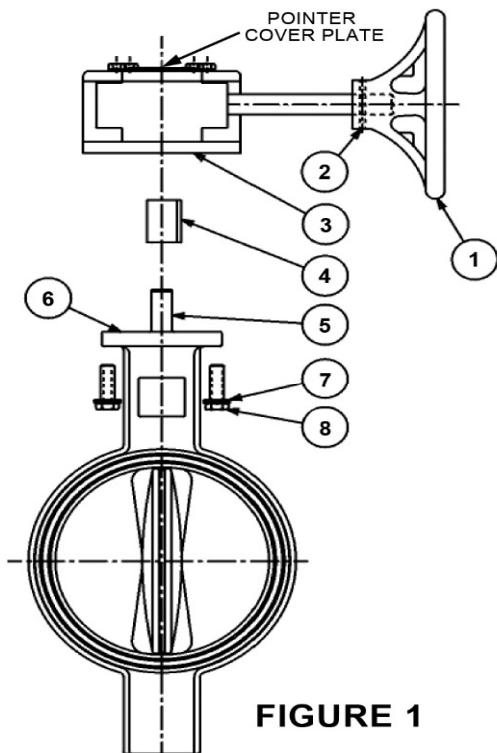
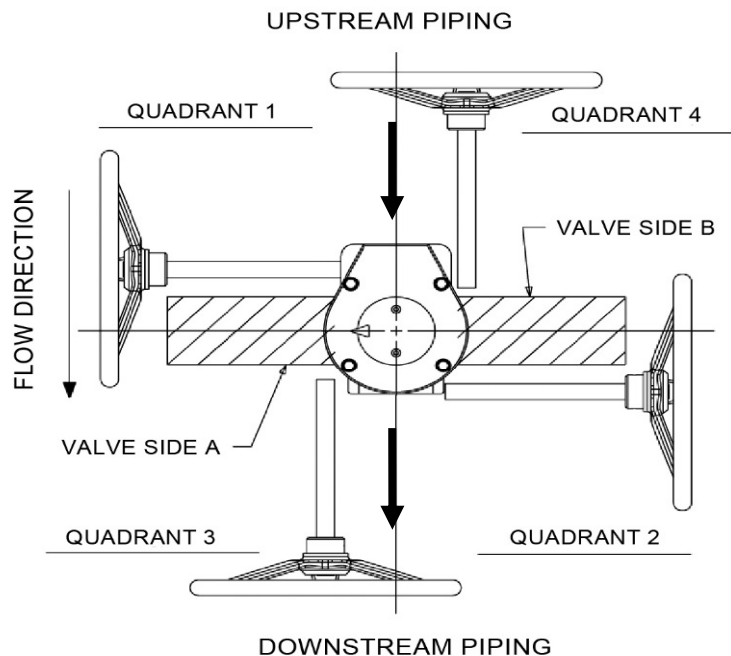

FIGURE 1
FIGURE 2
1. Install hand wheel (1) onto gear operator shaft and secure with pin (2). (If not already attached) See *Figure 1*.
2. Turn the hand wheel (1) clockwise until in full SHUT position.
4. Assure valve is in full SHUT position, turn valve stem (5) to close disc if necessary.
5. Assure mounting base of gear operator (3) and the valve top flange (6) are both clean and dry.
6. Determine desired hand wheel position in reference to the piping system and compare with Fig. 2. There are 2 mounting positions for the gear operator onto the valve and the valve can be mounted in either direction into the piping system. This will allow hand wheel to be positioned in any of the 4 quadrants as shown in Fig. 2. Note that all Fire Protection and 10" and 12" size commercial valves allow for hand wheel positioning in quadrants 1 and 2 only.
- Insert adapter bushing (4) into gear operator (3) bore aligning bushing key with desired keyway. Keyway selection will determine hand wheel orientation position. (Note that Fire Protection model adapter bushings differ from illustration and only have 1 keyway position).
- Align adapter bushing (4) bore with valve stem (5) and slide gear operator assembly onto valve stem (5) until seated with valve top flange.
- Align gear operator (3) bore with valve stem (5) and align with desired keyway. Keyway selection will determine hand wheel orientation position.
- Slide gear operator assembly onto the valve stem (5) until seated with valve top flange.
8. Tightly secure gear operator (3) to valve top flange (6) using supplied* fasteners (7 & 8).
- Connection of gear operator to valve stem varies depending on gear operator model, size and style. The adapter bushing and key may be different from *Figure 1* illustration shown.